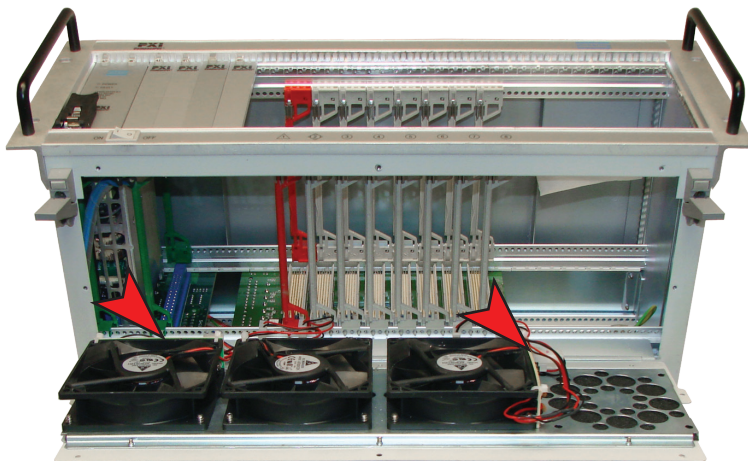

Figure 3.3 - Locations of the 2 fan controller boards mounted on the side of the fans
5. Locate the 2 fan controller boards mounted on the side of two of the fans - as shown in Figure 3.3.